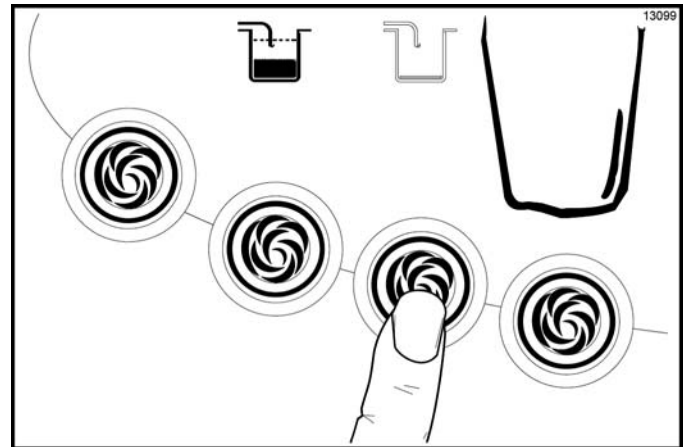

Figure 6-83
23. Press the corresponding Flavor Selection key . The Flavor key should be illuminated, and the syrup pump for the selected flavor will start running at the maximum speed. (See Figure 6-83.)